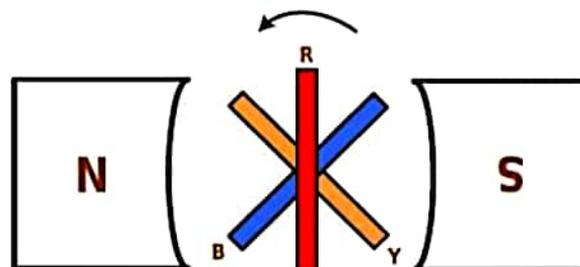

Figure 2.44 Generation of three phase emf
- Now, we consider 3 coil C_1 (R-phase), C_2 (Y-phase) and C_3 (B-phase), which are displaced 120° from each other on the same axis. This is shown in fig. 2.44.